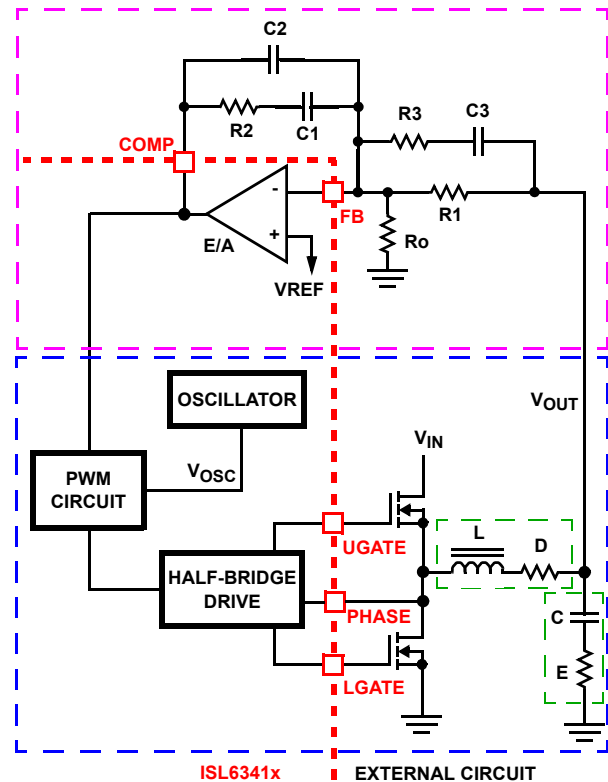

FIGURE 13. VOLTAGE-MODE BUCK CONVERTER COMPENSATION DESIGN
address a broad range of applications, a type-3 feedback network is recommended, as shown in the top part of Figure 13.
Figure 13 also highlights the voltage-mode control loop for a synchronous-rectified buck converter, applicable to the ISL6341x circuit. The output voltage (V_{OUT}) is regulated to the reference voltage, V_{REF} . The error amplifier output (COMP pin voltage) is compared with the oscillator (OSC) modified sawtooth wave to provide a pulse-width modulated wave with an amplitude of V_{IN} at the PHASE node. The PWM wave is smoothed by the output filter (L and C). The output filter capacitor bank's equivalent series resistance is represented by the series resistor E.
(F_0 ; typically 0.1 to 0.3 of f_{SW}) and adequate phase margin (better than 45°). Phase margin is the difference between the closed loop phase at F_{0dB} and 180° . The equations that follow relate the compensation network's poles, zeros and gain to the components (R_1 , R_2 , R_3 , C_1 , C_2 , and C_3) in Figure 13. Use the following guidelines for locating the poles and zeros of the compensation network:
4. Select a value for R_1 (1k Ω to 5k Ω , typically). Calculate the value for R_2 for desired converter bandwidth (F_0). If setting the output voltage via an offset resistor connected to the FB pin (R_0 in Figure 13), the design procedure can be followed as presented in Equation 4.